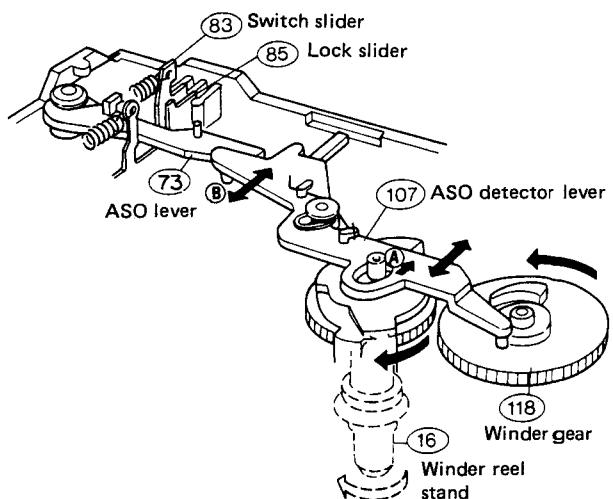

Fig. 15
lever ⑩ moves ASO lever ⑭, which moves lock slider ⑮ in the direction of arrow Ⓒ to release the lock. As lock plate ⑯ moves, the operation slider is returned and each operation is stopped. When the operation lever is returned switch slider ⑬ is returned to turn off the power (Fig. 15).